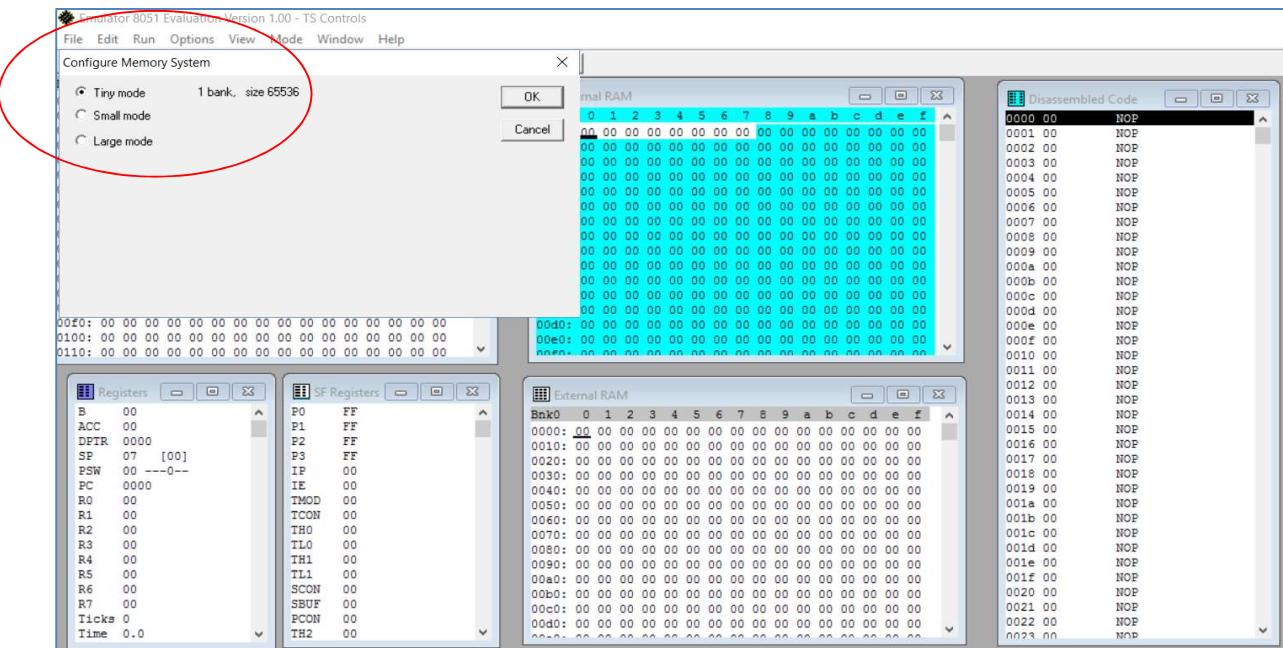

Figure 4.6: Selecting ‘tiny mode’
- g. After pressing config memory system in MIDE-51, following window will open as shown in Figure 4.6. Select **tiny mode** and then press OK to synchronize DB with external RAM (ROM).